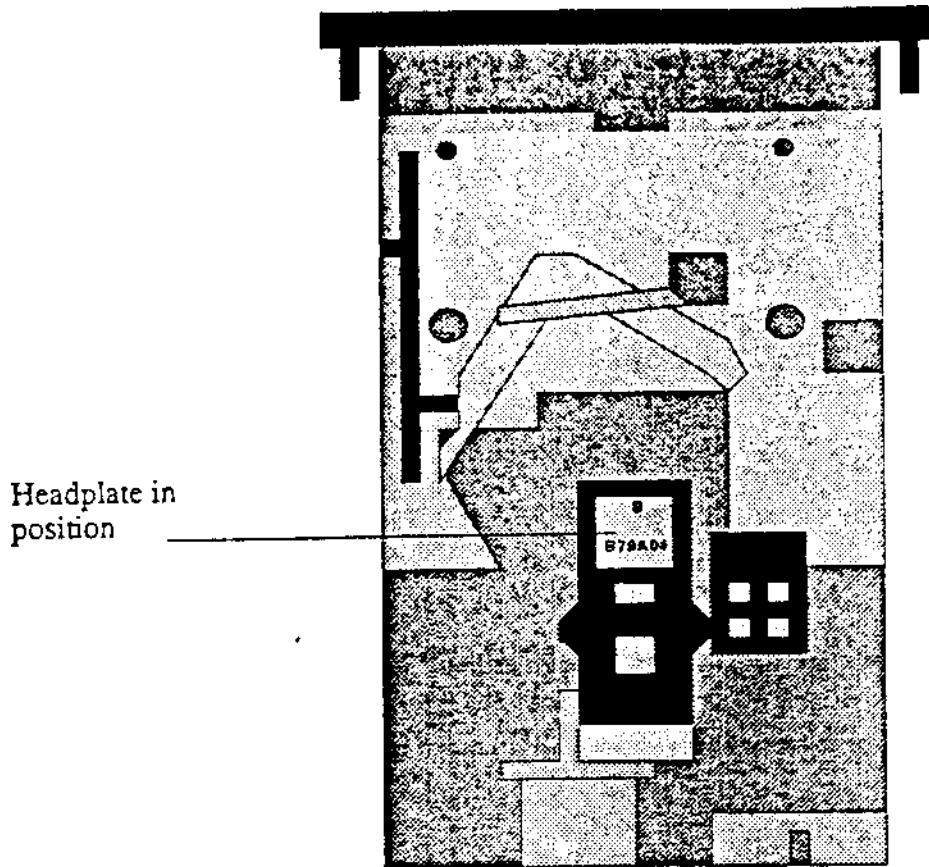

Figure 3
9. Locate the head assembly as shown in figure 3 and check that the head protection plate is in position and secure.